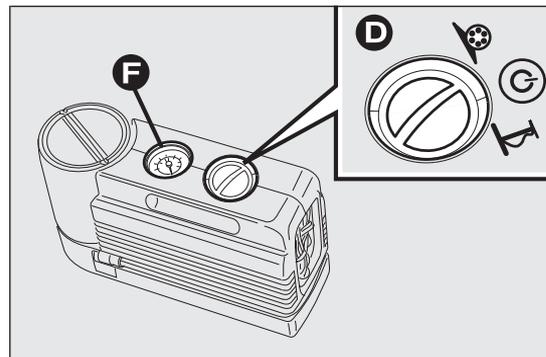
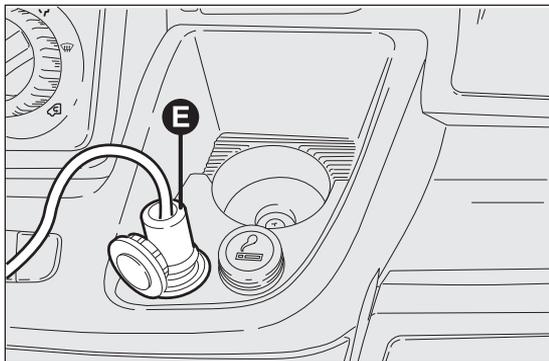

fig. 183
fig. 184
- insert the plug E fig. 184 in the nearest 12 V power socket and start the engine. Turn the selector D fig. 183 anticlockwise to the repair position. Activate the kit by pressing the on/off switch. Inflate the tyre to the pressure specified in the "Inflation pressure" paragraph, in the "Technical Data" chapter;
For a more accurate reading, it is advisable to check the pressure reading on the pressure gauge F fig. 183 with the compressor off and without moving the centre selector from the repair position;